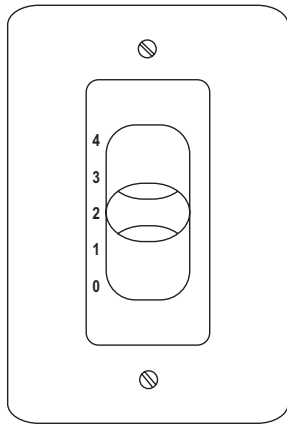

Figure 15
- 2. Check the operation of the fan by sliding the bar of the control through the four positions marked 1 - 4 ("0" position is OFF) (Figure 15).